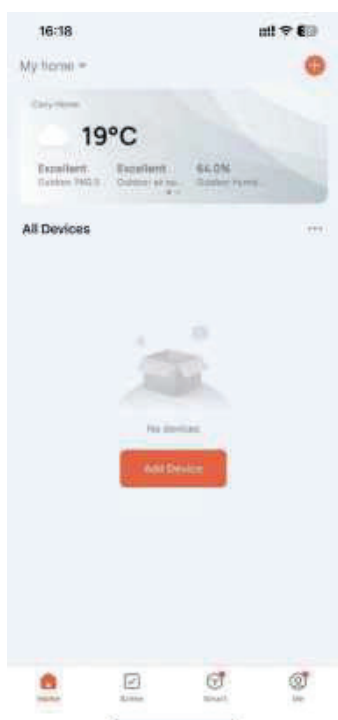

Fig4.2
1.4 Open Tuya APP, then click **Add device** (Fig4.2) to scan for appliance automatically. Press **Go to add** (Fig4.3) after find the appliance. And then press **Done** (Fig4.4) to complete the connection.